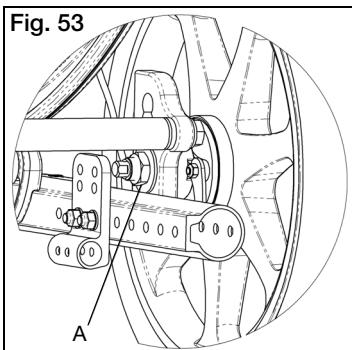

Fig. 53
- a. Remove both wheels. Using a 24mm wrench, loosen axle sleeve nut (Fig. 53:A) and washer. Repeat for opposite side of chair.